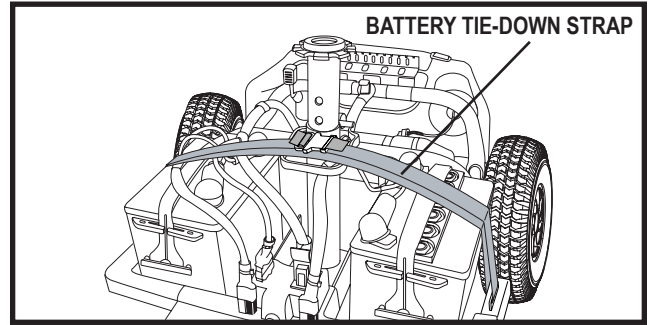

Figure 15. Battery Tie-Down Strap
11. Reconnect the battery tie-down strap—making sure the strap is positioned over the frame release lever to ensure proper securement. **See figure 15.**